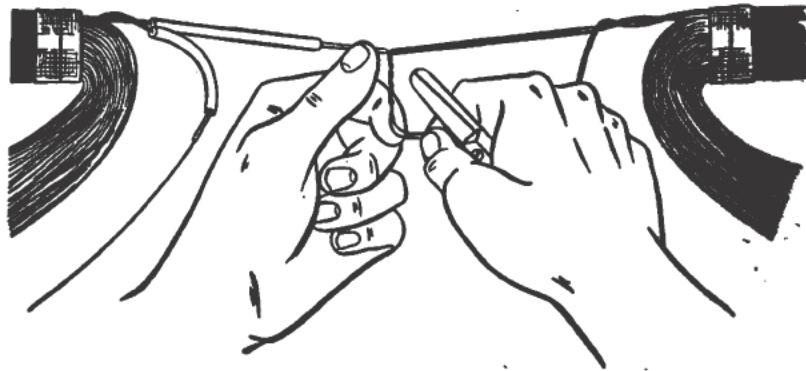

Figure 6-19.—Operation 13: Inspection for proper number of turns in splice.
13. After crank-handling, the joint should contain the number of twists indicated in figure 6-19.